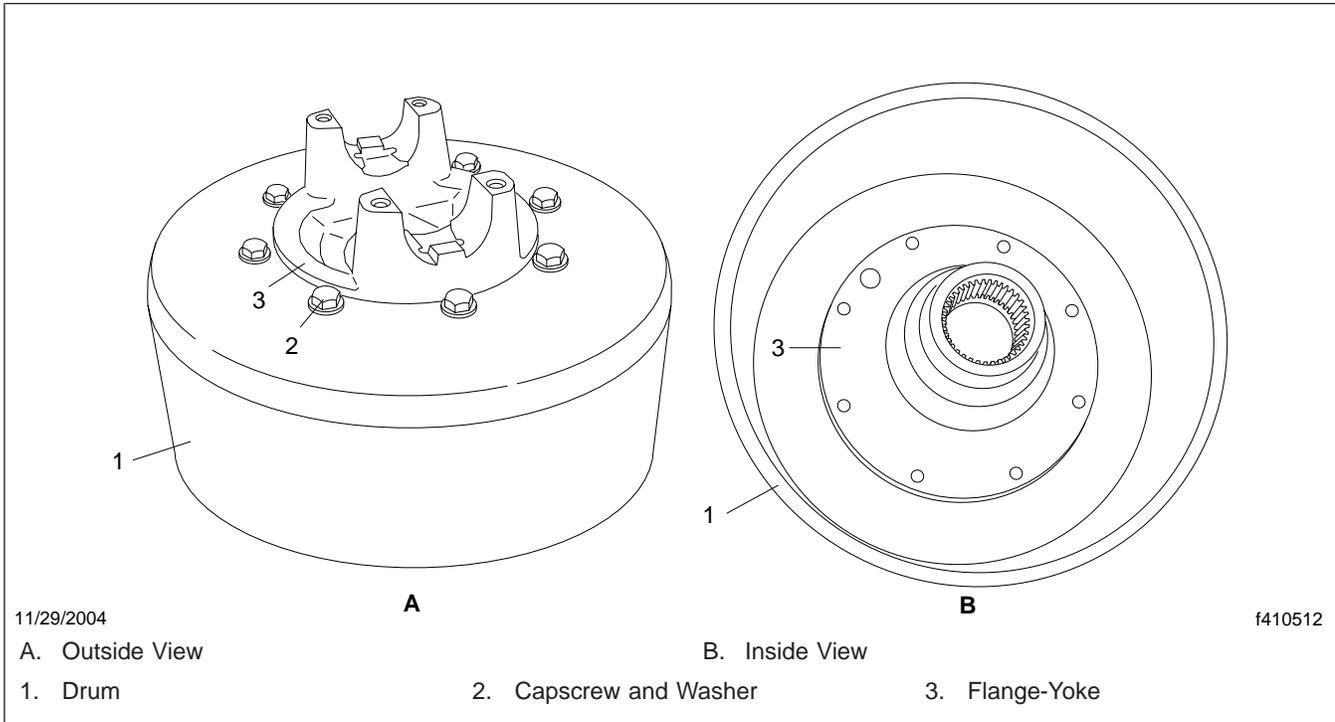

Fig. 1, Drum and Flange Assembly (typical)
7. Detach the adjuster cable from the adjuster lever and slide the cable off of the adjuster cable guide. See Fig. 1.
8. Remove the adjuster lever and the adjuster spring. See Fig. 1. Save the parts for installation.